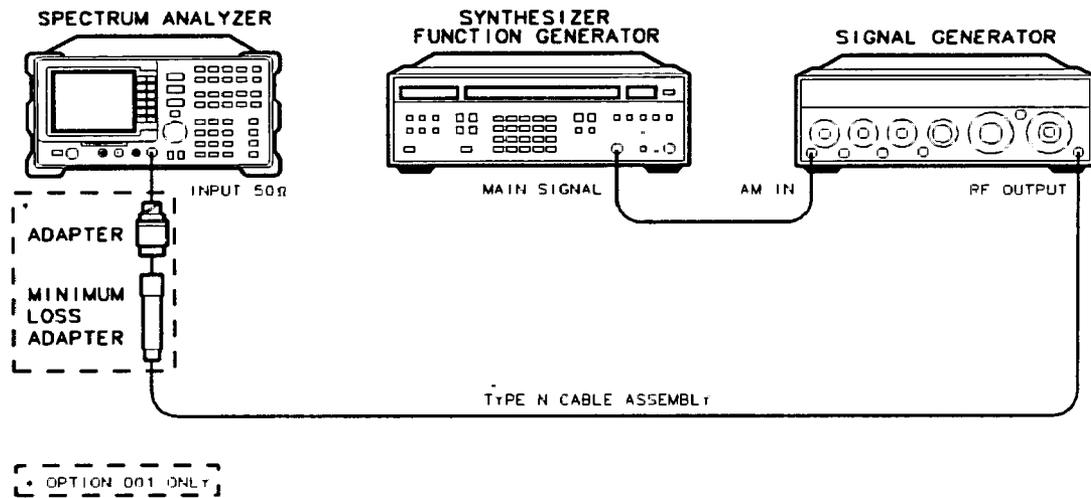

Figure 3-6. Sweep Time Accuracy Test Setup
3. Connect the equipment as shown in Figure 3-6.